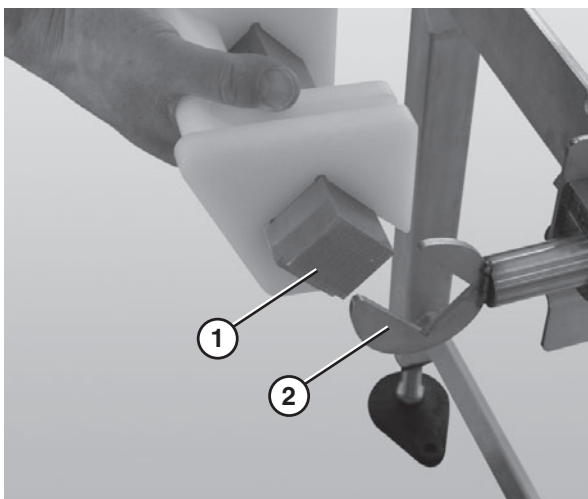

Figure 15
4. Attach the nose bar transfer post (Figure 15, item 1) to the nose bar idler shaft hands (Figure 15, item 2).